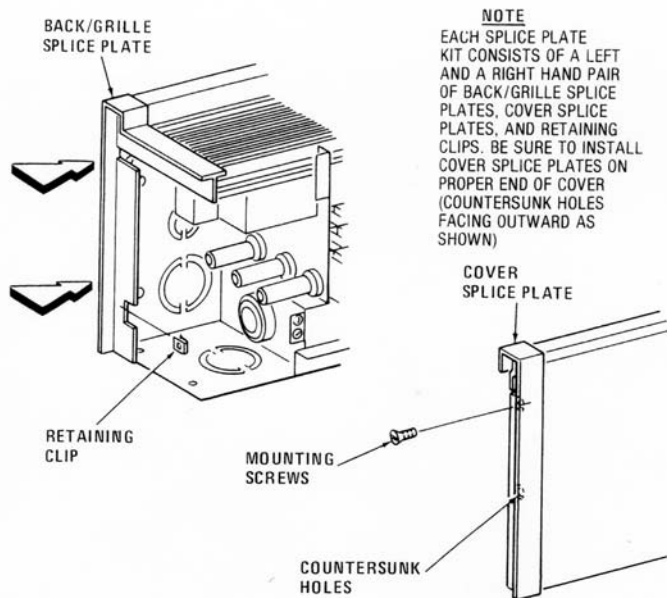

Figure 7. (Type ADB and ASH)
NOTE: Heaters may be butted against each other by using splice plate kit, thus eliminating the filler section kit, if so desired. (See Figure 7.) When installing a run of butted heaters using splice plates, install a back / grille splice plate on the end of the first heater and attach to wall. Then attach back / grille splice plates to same end of remaining heaters in the run and attach to wall. Install left and right cover splice plates on every other heater cover in the run.
4. If the wall run has inside or outside corners, first install back /grille splice plates (10, Figure 1a) on the ends of the corner sections (See Figure 7). Then install corner (4) on the wall using screws, bolts or anchors (by installer) through the four mounting holes provided in the corner.